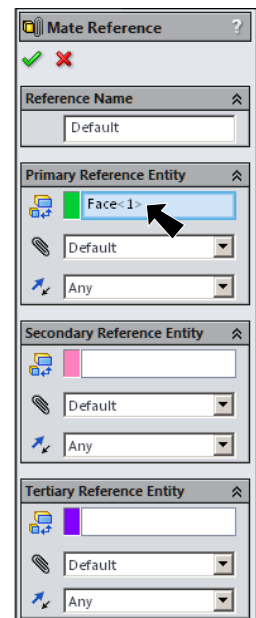

Fig. 19
Step 3. In the Mate Reference Property Manager click OK , **Fig. 19**.